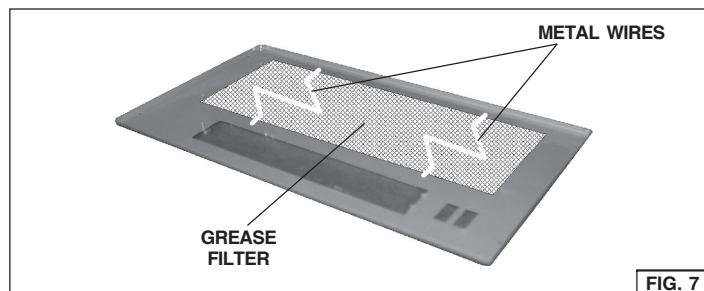

FIG. 7
1. Remove the metal wires (Fig. 7) and discard them.